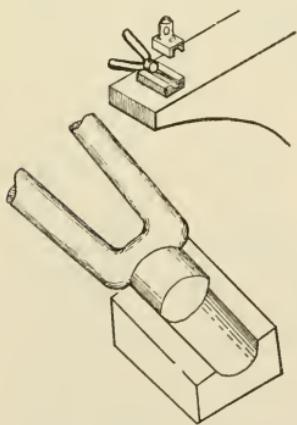

FIG. 198.—SWAGING TOOLS.
swages have a semicircular groove, but some have angular grooves. They come in pairs and in different sizes. A top swage has a handle like a flatter and a top fuller, while the bottom swage has a stem that fits into the square hardy hole. These tools are generally used to give a finish to the work. (See Fig. 198.)
4. Swaging the head. — When the hole has been finished, fit into it a pin of $\frac{1}{2}''$ round iron or steel and hammer the head round, using the hammer at first, then the top and bottom swages to finish. (See Fig. 198.) This operation will be rather difficult, but by taking